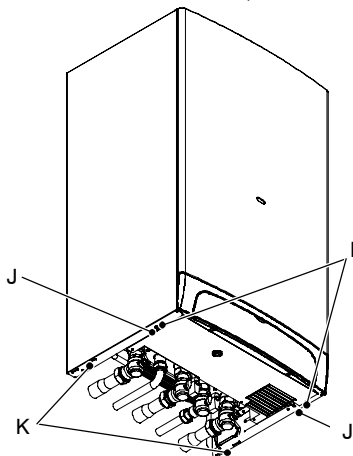

Fig. 6.9
- 2 Remove the screws I and J (Fig. 6.9).